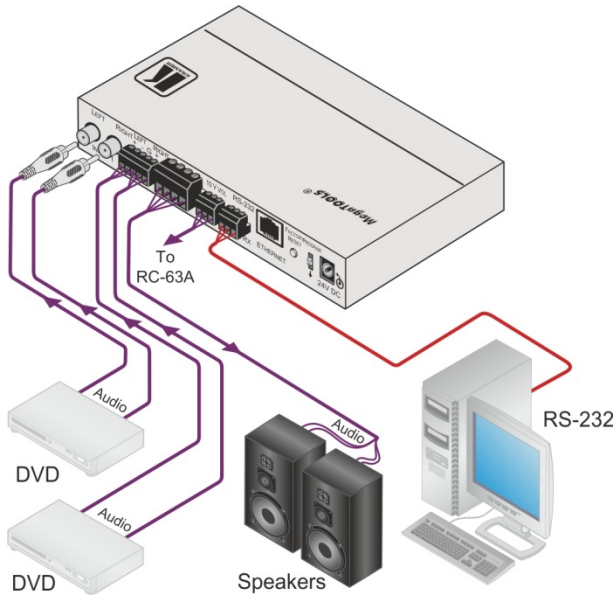

Figure 2: Connecting the 908 40W per Channel Stereo Audio Amplifier
To connect the **908**, as illustrated in the example in Figure 2, (see the input/output connections in Section 4.1) do the following:
4. Connect the 24V DC power adapter to the power socket and connect the adapter to the mains electricity (not shown in Figure 2).